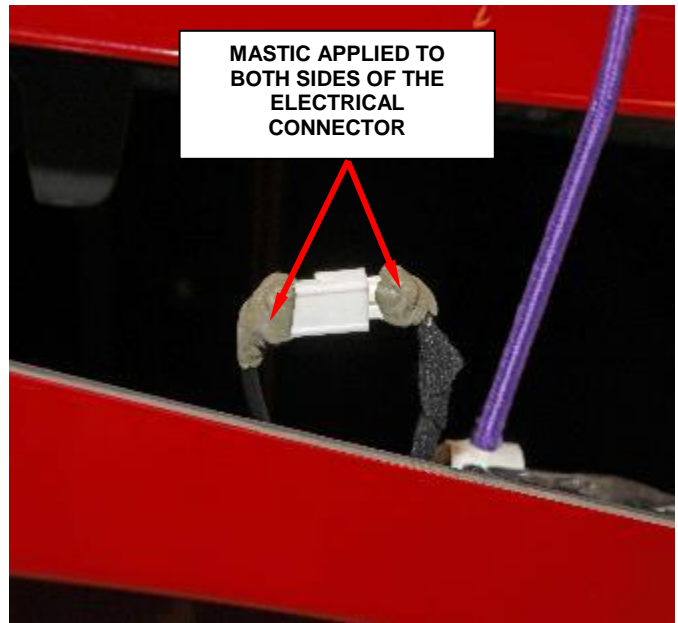

Figure 32 – Electrical Connection
15. Apply the insulating mastic **on both sides** of the electrical connection in the wire input point, so as to seal the cavities as shown (Figure 32)